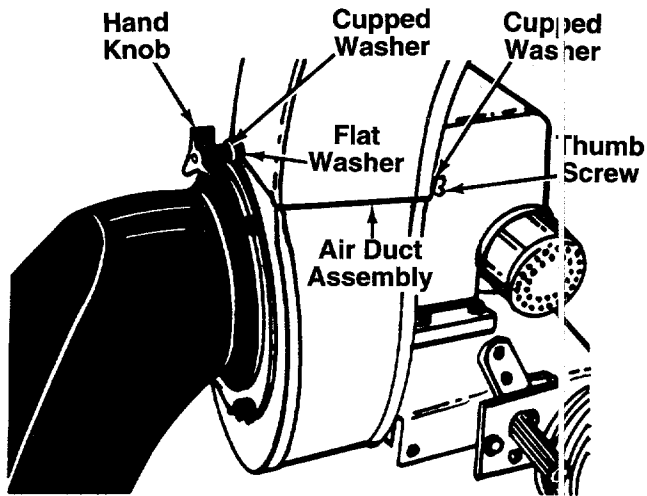

FIGURE 6.
Place air duct assembly over opening on top of housing. Secure front of air duct assembly with one flat washer, cupped washer (cupped side of washer against flat washer) and a hand knob. Secure back (close to engine) with one cupped washer (cupped side against air duct assembly) and thumb screw. See ← figure 6.
1. Remove the bag. Remove the air duct assembly by removing the hand knob, cupped washer and flat washer from the front of the air duct assembly, and the thumb screw and cupped washer from behind the air duct assembly. Refer to figure 6.